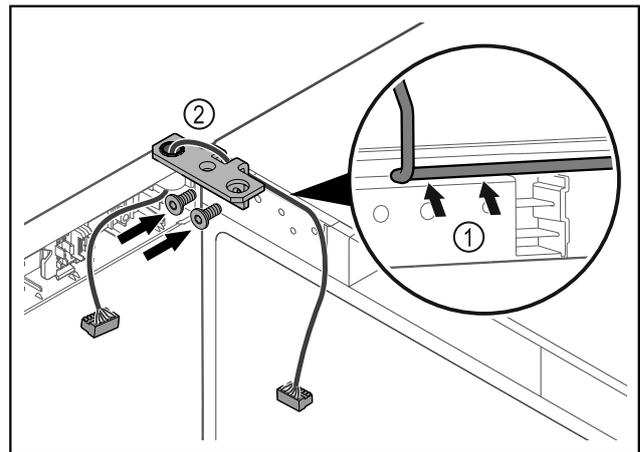

Fig. 37
- ▶ Feed the cable through the recess in the hinge and lay it carefully Fig. 37 (1).
- ▶ Screw on the hinge Fig. 37 (2).